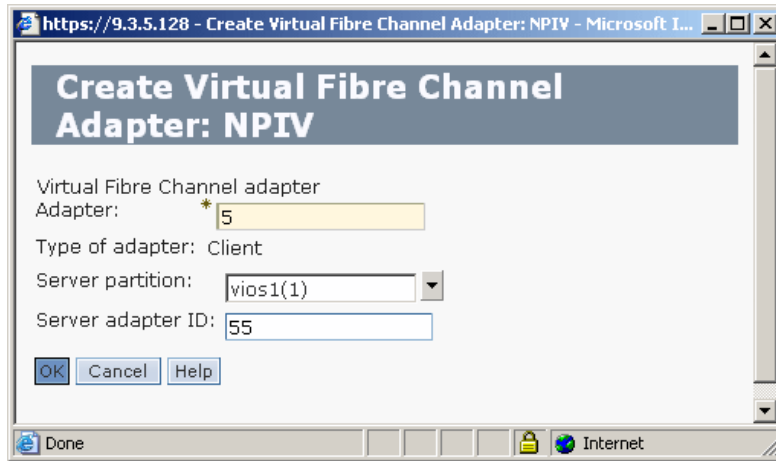

Figure 2-48 Set Adapter IDs in NPIV partition
8. Enter the Adapter ID for the virtual Fibre Channel client adapter, the name of the Virtual I/O Server partition it should be connected and the Server adapter ID for the slot number of the virtual Fibre Channel server adapter and click **OK** as shown in Figure 2-48.